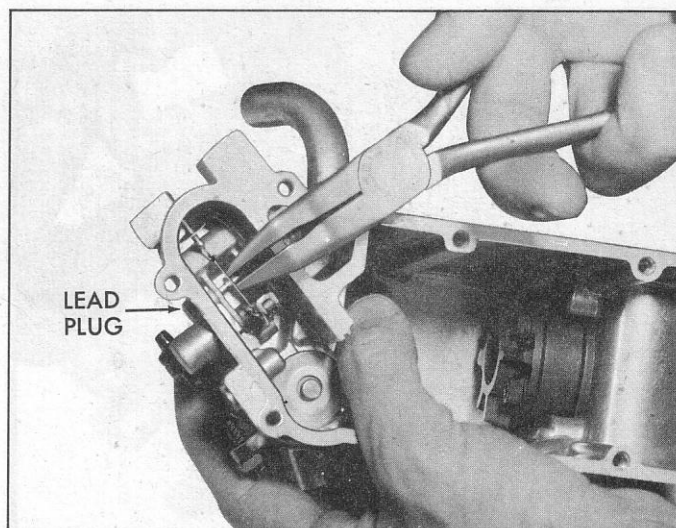

Fig. 58—Removing Control Arm Axle Shaft
5. Rotate control arm and counterweights on axle until axle shaft is exposed. Press axle from meter body using long nose pliers (fig. 58). Remove control arm and counterweight assembly from fuel meter body.